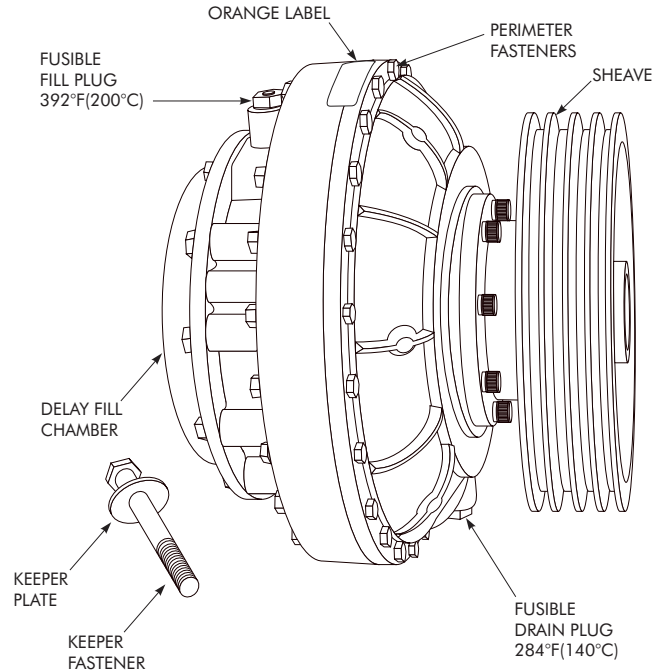

Figure 1
- A. Rotate fluid coupling until fill plug is on top and remove it, (Both fill and drain plugs have metric threads). The fill plug is on the opposite side of the sheave in the fluid coupling, See Figure 1, Page 1.
- A. Fusible plugs in the fill or drain holes have solder cores that melt at the temperatures shown in Figure 1, Page 1. One extra 284°F(140°C) plug is furnished with each coupling.